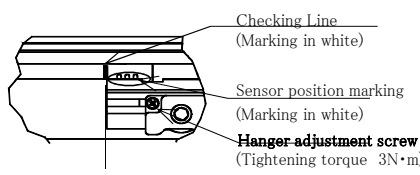

Fig 2. In case Built-in type
- Please confirm edge of magnet and Checking line (white) are in line as below Fig 2 and Fig 3 at door fully close position.
If not, please adjust their position as below Fig 2~4 by with Hanger adjustment screw and wire tensioner screw after putting plastic spacer(2mm) between magnet and State coil